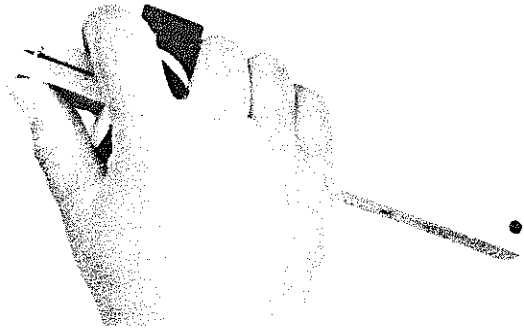

Fig. 4-5 Proper method of holding the gauge for scribing
3. To gauge a line, grasp the gauge as shown in figure 4-5. The fingers should encircle the head and the thumb is on the beam and behind the pin.